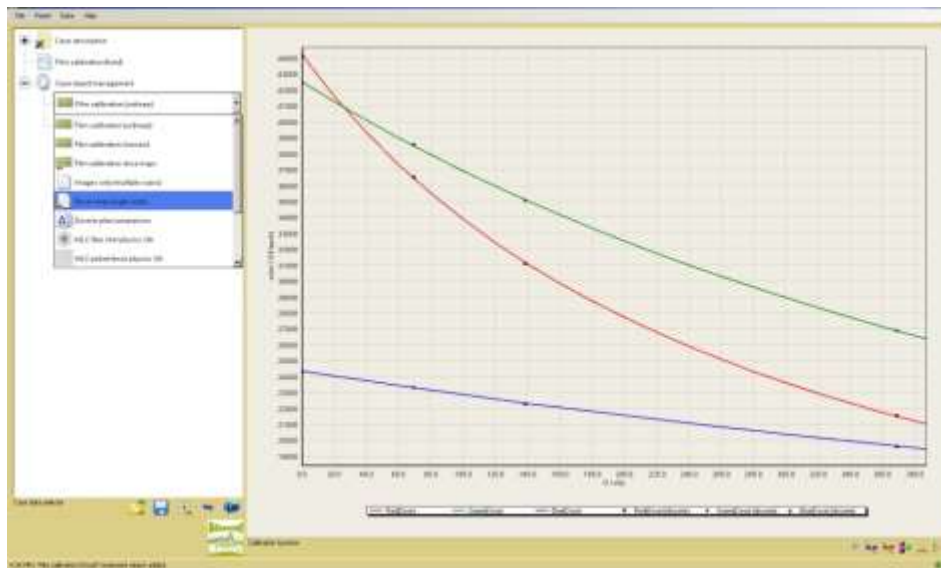

Figure 2
7. Add a new case object choosing "Add Dose Map Single Scan" (Figure 2)